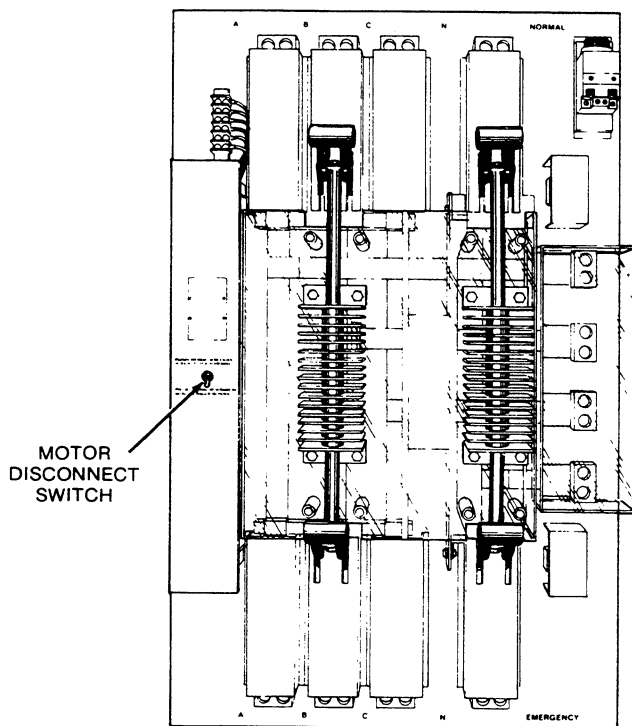

FIGURE 12.
1. Move the motor disconnect switch to the DOWN, manual operation position. See Figure 12.